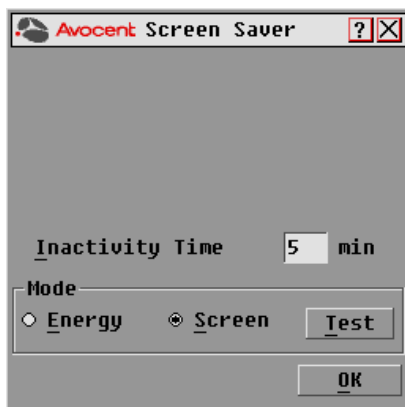

Figure 3.5: OSCAR Interface Screen Saver Dialog Box
2. Click *Setup - Screen Saver* to open the Screen Saver dialog box shown in Figure 3.5.